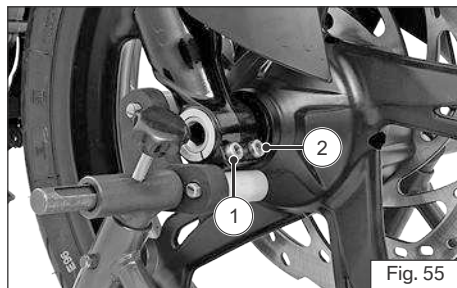

Fig. 55
- ◆ Loosen the left side clamping screws (1) and (2) (ref. Fig. 55).
- ♦ Install the clamping screws (1, 2, 4 & 5) and tighten to the specified torque (ref. Fig. 55 &
- ♦ Assemble the speed sensor (9) and mounting screw (8) in front suspension.